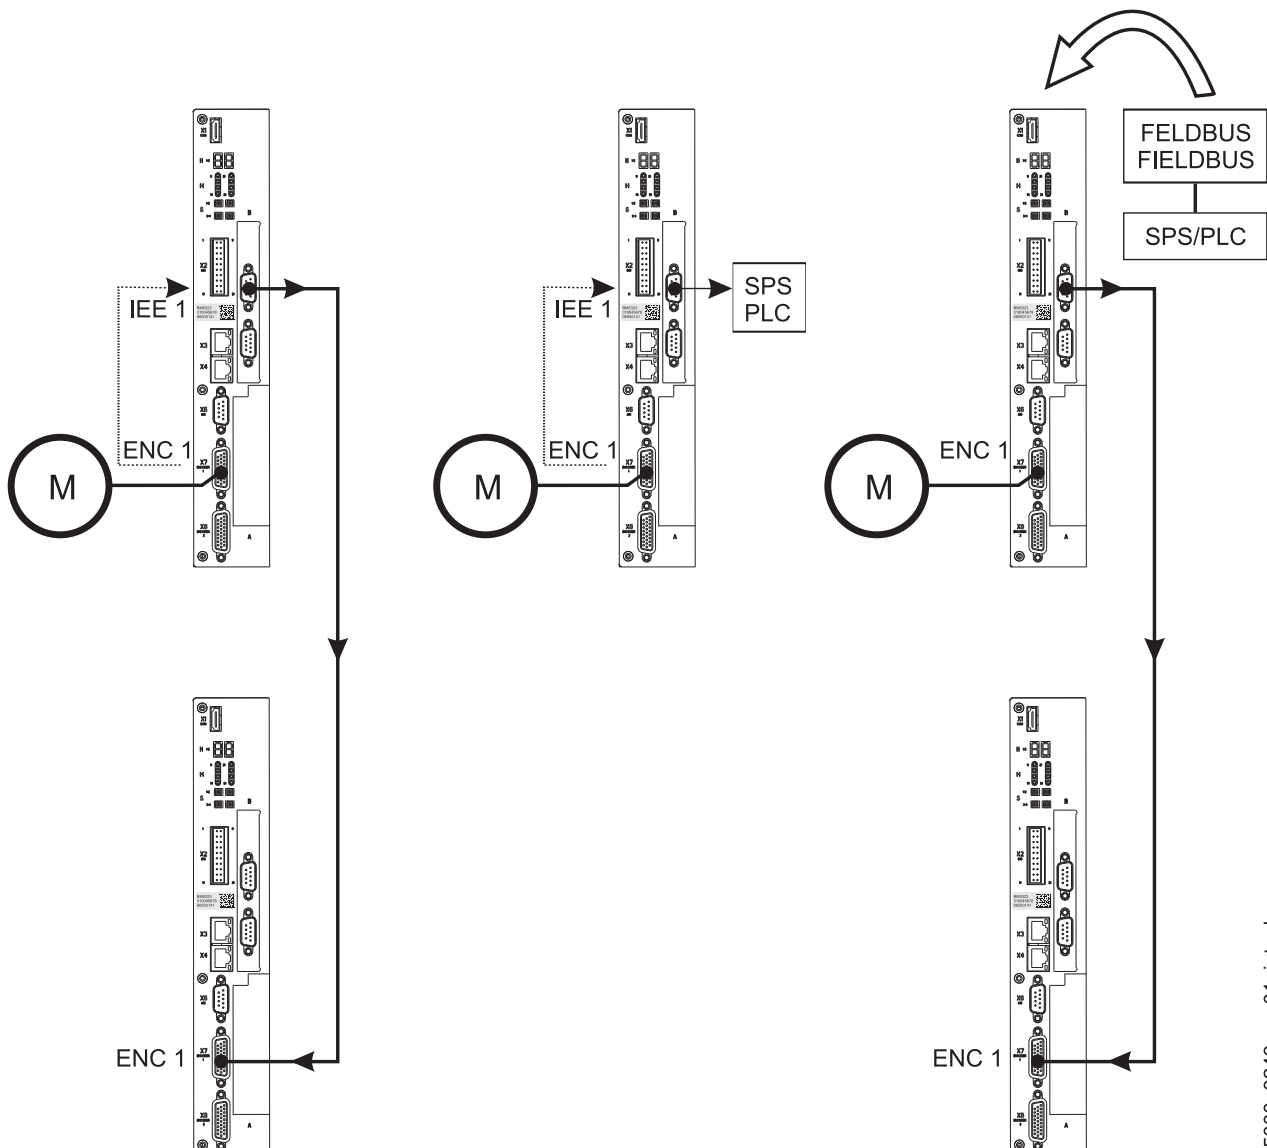

Figure 14: Connection diagram incremental encoder emulation IEE
- Position actual values encoder 1 or encoder 2, see examples 1 and 2 in ►Figure 14◄ on page 35
- Field bus set value (external set via bus), see example 3 in ►Figure 14◄ on page 35.
The signal generated can either be used for synchronization of the following axis, see examples 1 and 3 in ►Figure 14◄ on page 35 or for position measuring of the axis by a master control, see example 2 in ►Figure 14◄ on page 35.
Depending on the desired application you now are able to connect the incremental encoder emulation with further system components (see ►Figure 14◄ on page 35).
- 2 Connect an output (e.g. X1) of the incremental encoder emulation IEE with the encoder input of the higher-level control (see example 2 in ►Figure 14◄ on page 35).
- 3 Connect an output (e.g. X1) of the incremental encoder emulation IEE with the encoder input of the next b maXX drive (see example 1 in ►Figure 14◄ on page 35).